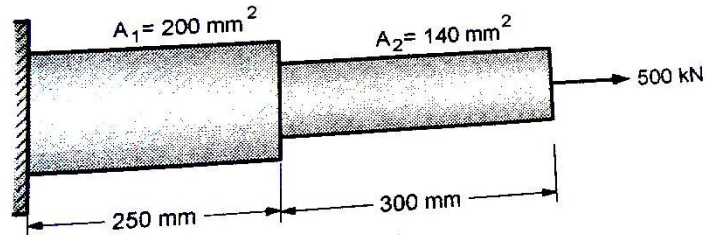

Figure 3
- (a) A stepped metallic bar with circular cross section consist of two segments as shown in Figure 3. The modulus of elasticity of bar material is 200 GPa. Determine i) the nodal displacements ii) elements stress and iii) support reaction.